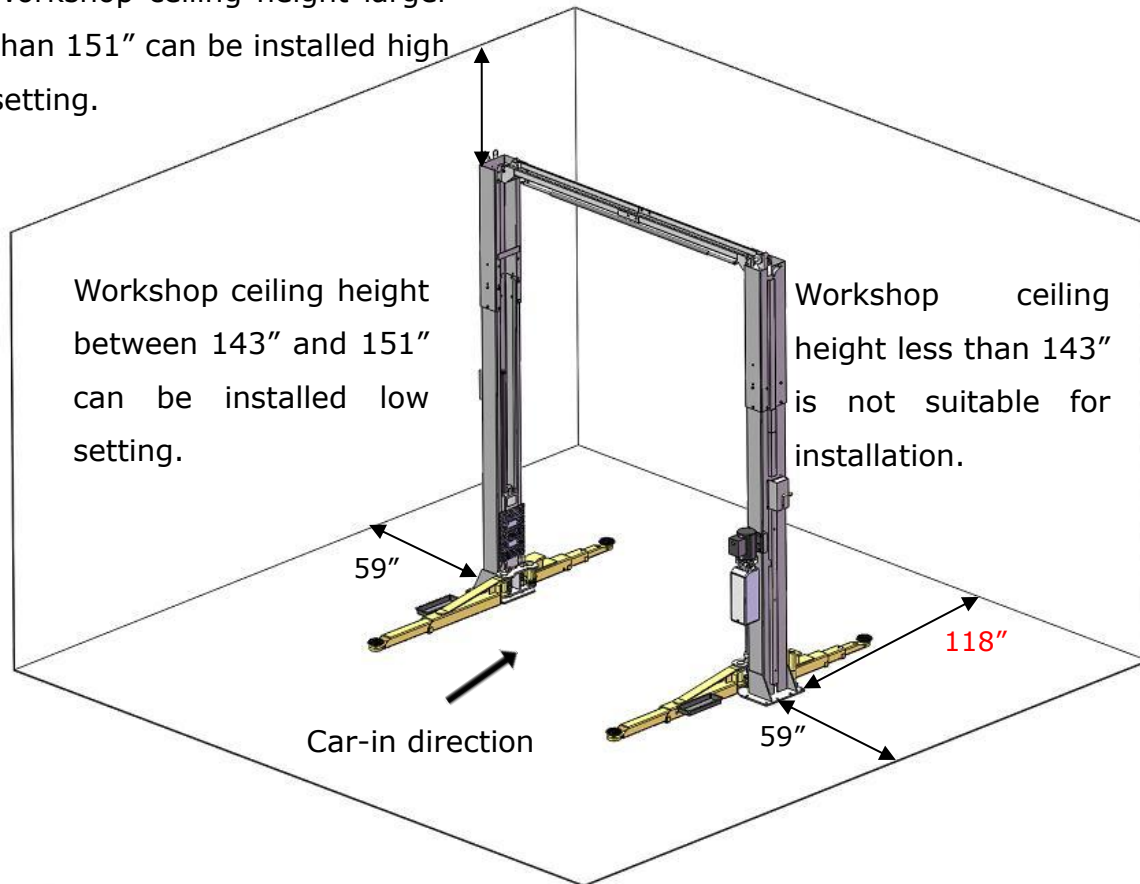

Fig.9
2. Available space. Make sure there is enough space for the Lift; front, back, sides, and above. Refer to Specifications for specific measurements.(See Fig.9)